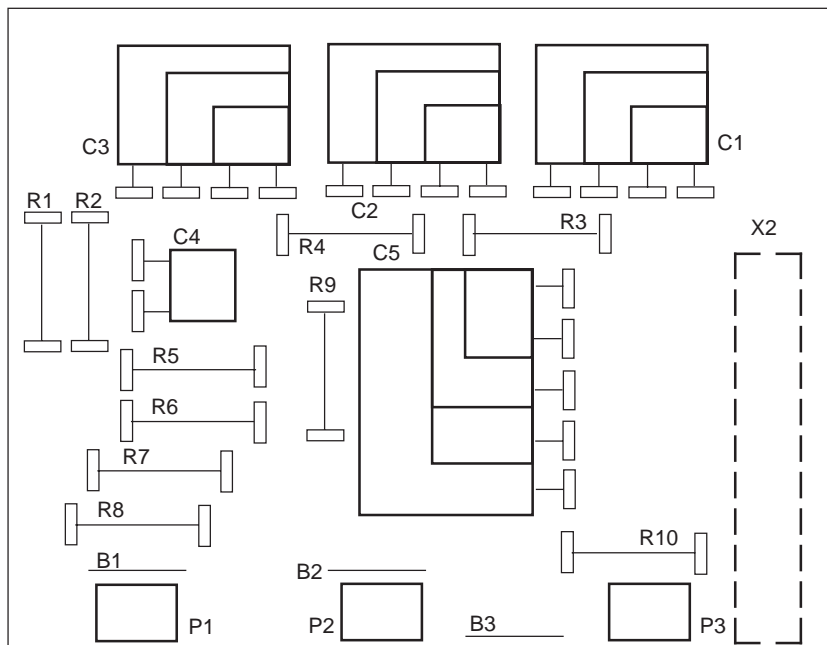

Fig. 23: Module labels: MOD 5, MOD 6 for TDM 2 drive module
- Fig. 23 Module labels: MOD 5, MOD 6 for TDM 2 drive module